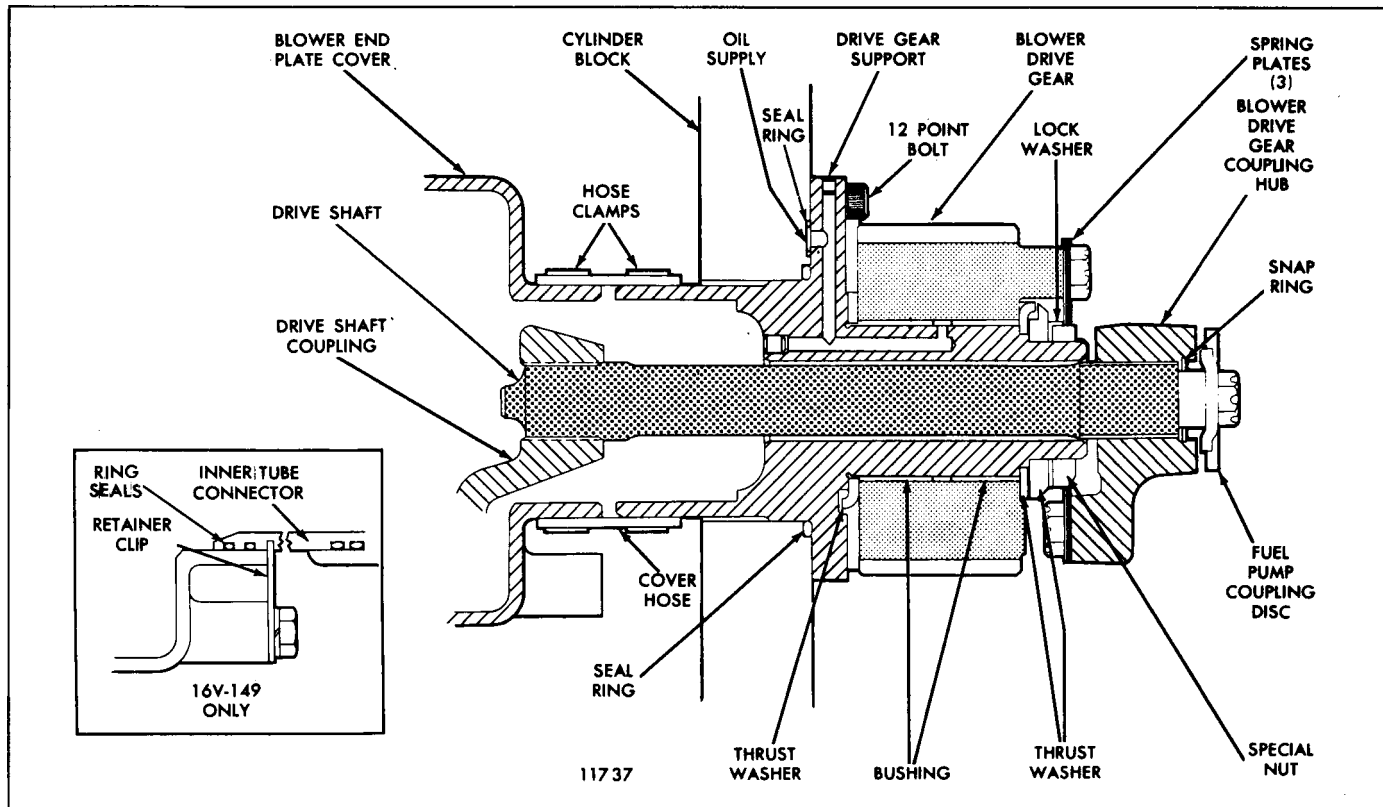

Fig. 3 – Blower Drive Hub and Gear Assembly (12V-149)
2. Remove the eight (8) bolts, lock washers and plain washers securing the air inlet housing to the air shutdown housing. Remove the air inlet housing and gasket.
9. Remove the blower drive shaft (Fig. 3) from the blower drive gear hub assembly (Section 1.7.6).
10. On 12V engines, loosen the two (2) hose clamps securing the cover hose to the blower end plate cover and the blower drive gear support (Fig. 3) and slide the hose back over the drive support. The 16V-149 engine uses a blower inner tube connector (inset, Fig. 3) in place of the hose and hose clamps. Remove the retainer clip and slide the inner tube connection back into the blower drive gear support.